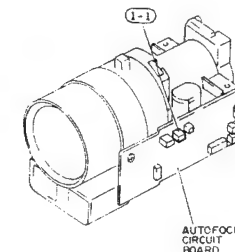

Fig. 2-102
- 1) Disconnect connector on the autofocus circuit board. (See Fig. 2-102)